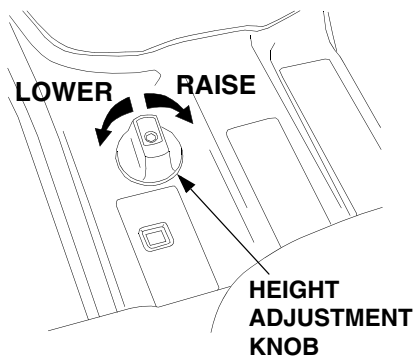

Figure 3
1. If installing the deck on a tractor with the deck downstop feature, make certain the downstop is in the lowered position as follows (See Figure 3):